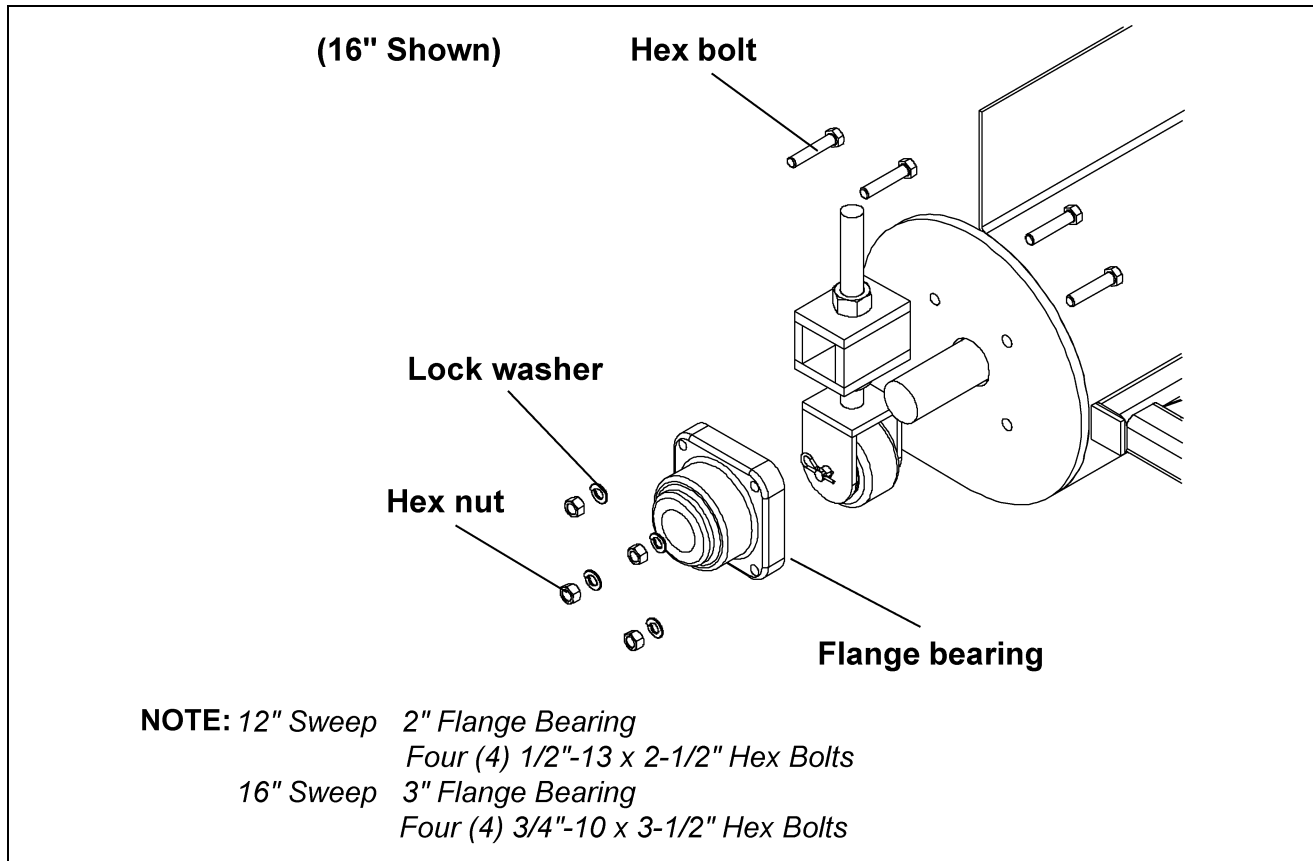

Figure 5G
- A. Slide the flange bearing onto the end stub and bolt it to the end plate using hex bolts, lock washers and hex nuts as shown in Figure 5G.